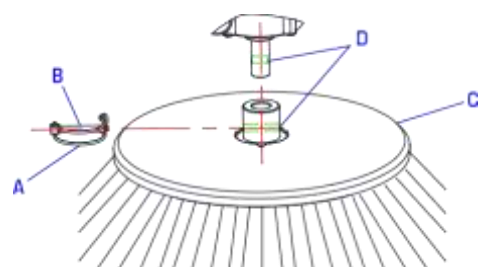

Figure8
- 1)Drive the machine on a level ground and release the pedal (2) and stop the machine.
- 2) Turn the ignition key (71) to "0".
- 3)Release the spring (A,fig. 8),remove the pin (B) and the brush (C) from the gearmotor shaft.
- 4)Install the new side brush on the gearmotor shaft,insert the pin (B, fig. 8) in the holes (D, fig. 8),and engage the spring (A, fig. 8)